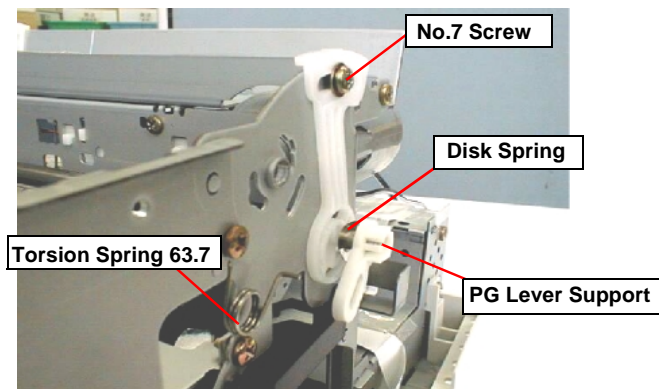

Figure 4-39. Removing the Torsion Spring 63.7 & PG Lever
- When installing the Disk Spring (6.2x 0.15x1,S/NA), pay attention to its direction. (Convex side should face the right side.) Refer to the Figure 4-39.